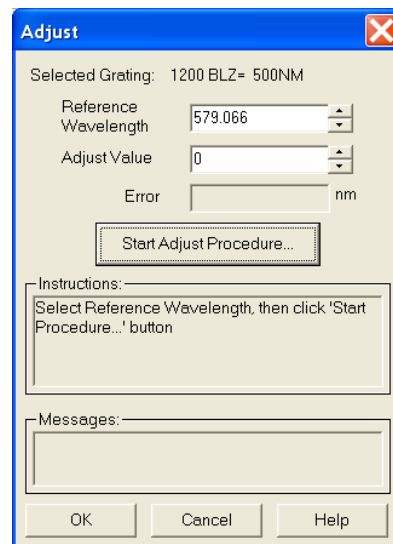

Figure 66. Adjust dialog
1. Click on the **Adjust** button to open the **Adjust** dialog (Figure 66).